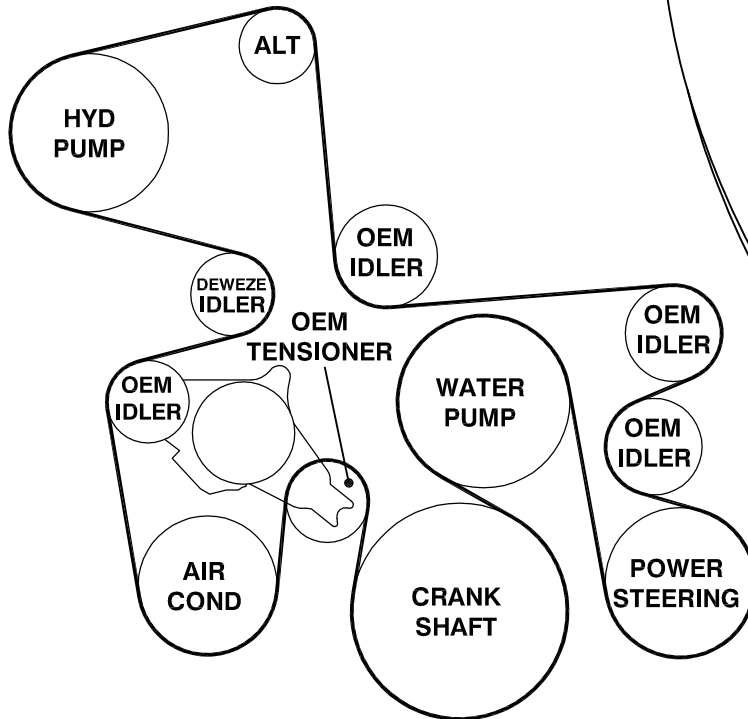

FIG. 2
2. Drain the radiator down far enough to remove the metal heater tube (18) from front of engine.
6. Remove the metal heater tube (18). Cut it off midway between the bend and the mounting tab as shown in Fig. 2.
7. Mount the front support bracket (2) to the engine at Locations C and D with two M10 x 45 bolts (9). Mount the top bracket (1) to the alternator by replacing the OEM bolts with two M10 x 100 bolts (11). Attach the top bracket to the front bracket with two 3/8 x 1 3/4 bolts (11). Tighten all bolts.
8. Mount the idler bracket (4) to the front of the engine at Locations E and F with two M10 x 40 bolts (12). Push the idler bushing (5) into the back (the side without the snap ring) of the idler pulley (6). Insert the M10 x 75 bolt (14) through a 3/8 flat washer (15), through the idler pulley and bushing and into the threaded hole on the idler bracket.
9. Bolt pump (7) onto pump plate (3) with two 3/8 x 1 1/4 hex head bolts (21) and two 3/8 lock washers (22). Install the fittings to the pump. Attach clutch coil (8) with four 1/4 x 1/2 flange bolts supplied with clutch. Attach clutch pulley (8) to pump shaft with 5/16NF x 1 1/4 bolt and heavy washer supplied with clutch. Mount the pump and plate to the top bracket with five 3/8 x 1 1/4 socket head bolts (13).
10. Reinstall the OEM heater tube (18) that was cut off. Push the hose elbow (16) onto the heater tube, push the hose splice (17) into the elbow, and push the splice into the OEM heater hose that originally connected to the metal tube, securing with the hose clamps (19). Make sure the elbow is rotated so it doesn't contact any moving parts. See Fig. 2.